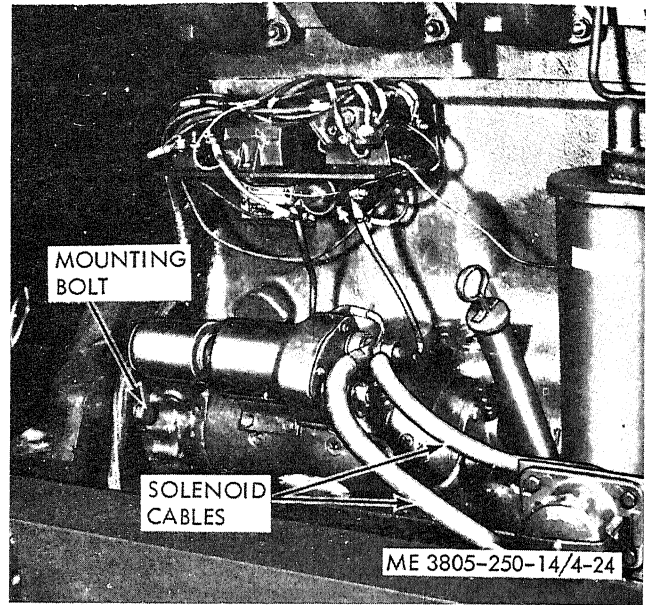

Figure 4-24. Starter motor, removal and installation.
(1) Disconnect the cables and lead wires from the solenoid (fig. 4-24) by removing two nuts on the solenoid and the terminal nut on the starter.
(1) Position the starter (fig. 4-24) to the engine and secure with three bolts and lockwashers.
(2) Connect the electrical leads to the starter and solenoid and secure with nuts.
(3) Reconnect battery cables.